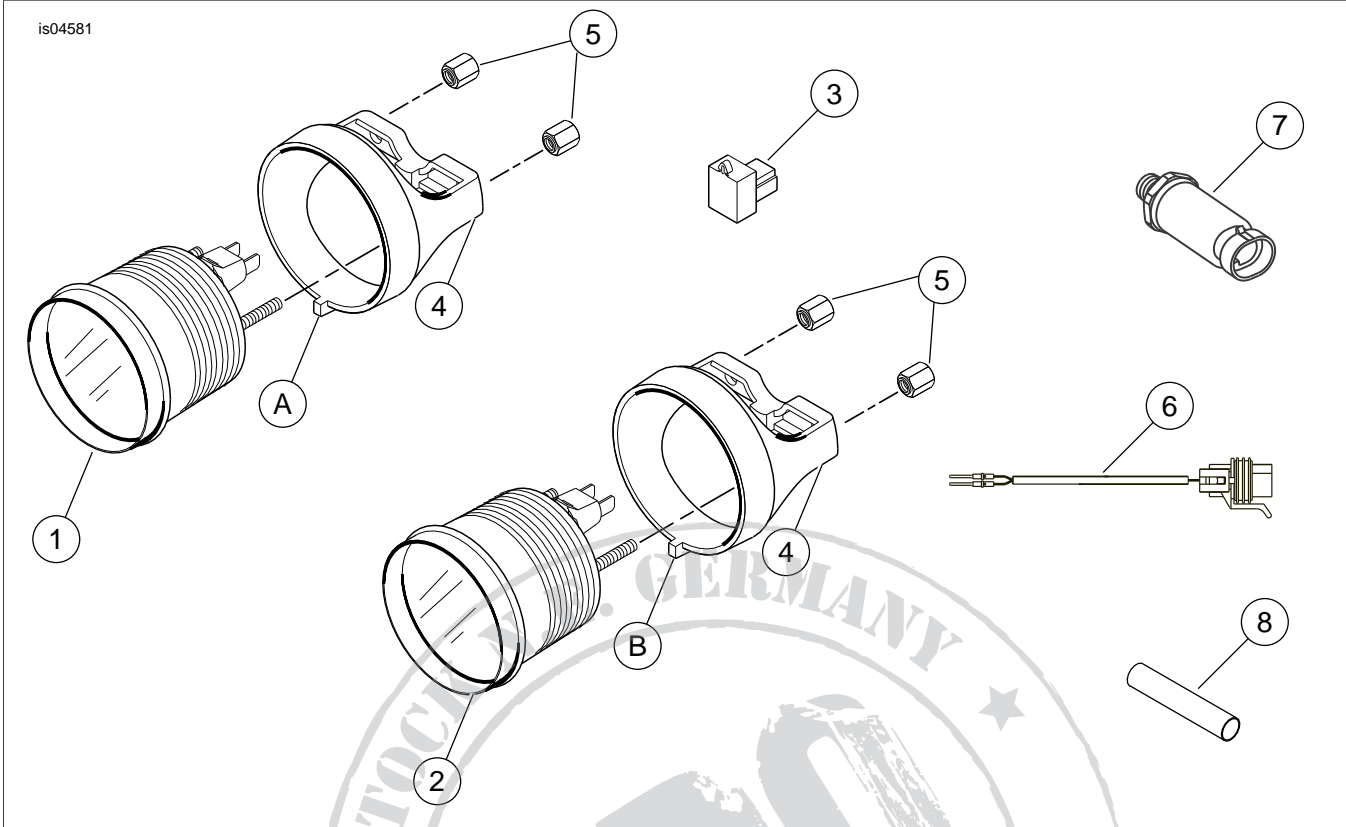

Figure 9. Service Parts: FLHT Gauge Kit
See Figure 9 and Table 1.
8. See Figure 9. Route the jumper (6) pins through the conduit from the kit in the same direction as the original wire noted in Step 7. Use cable straps to secure to the wire bundle.
14. See Figure 9. Start the oil pressure sending unit (7) into crankcase bore. Tighten switch to 8-10 ft-lbs (11-14 Nm) with a 1-1/16 inch open end crow foot wrench.
3. See Figure 9. Install gauges (1 and 2) in the inner fairing. While seated on the motorcycle, the air temperature gauge installs in the hole on the left side of the radio tray, and